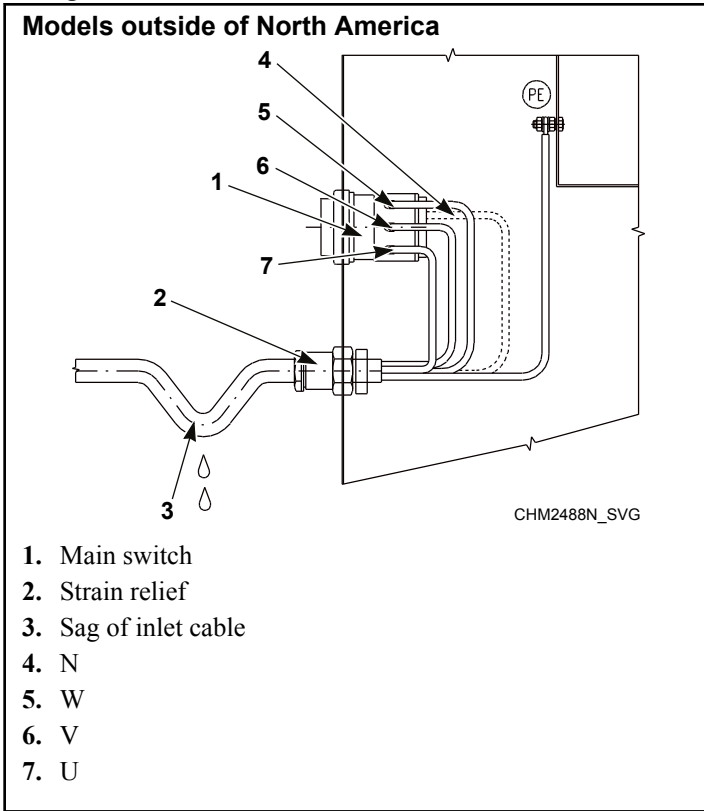
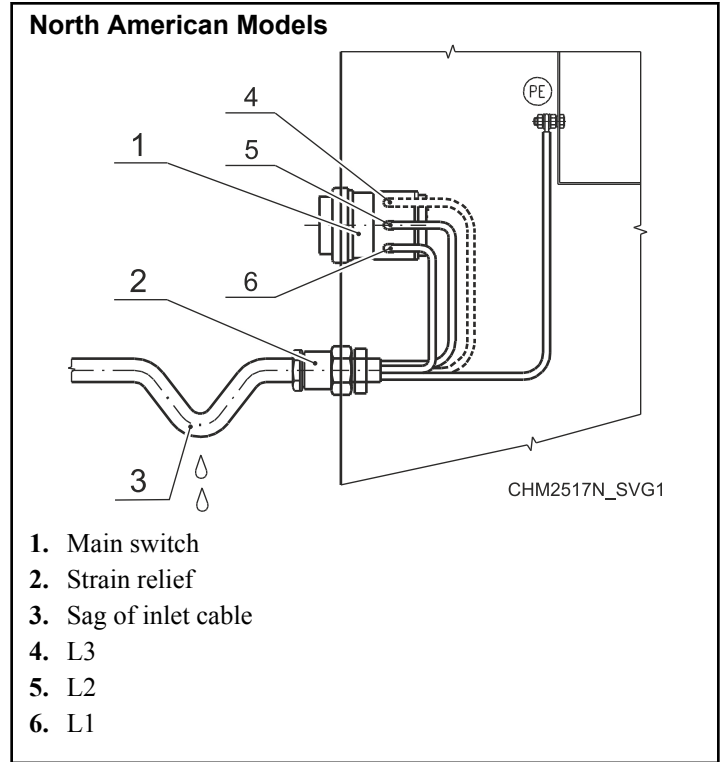

Figure 23
Figure 24
3. With stranded conductors, use wire end tubes with an insulated sleeve (6) for L1/U, (L2/V), (L3/W), (N) conductors. Make sure there is no accidental contact, since the supply cable stays under voltage even when the main switch is off.
- Connect the supply cable conductors to the incoming terminals (main switch [1]), marked with L1/U, (L2/V), (L3/W), (N) and the terminal marked with PE. Refer to *Figure 23* or *Figure 24*.
Provide a sag in the cable, in front of the strain relief. This will prevent condensed water from dripping into the machine. Refer to *Figure 23* or *Figure 24*.